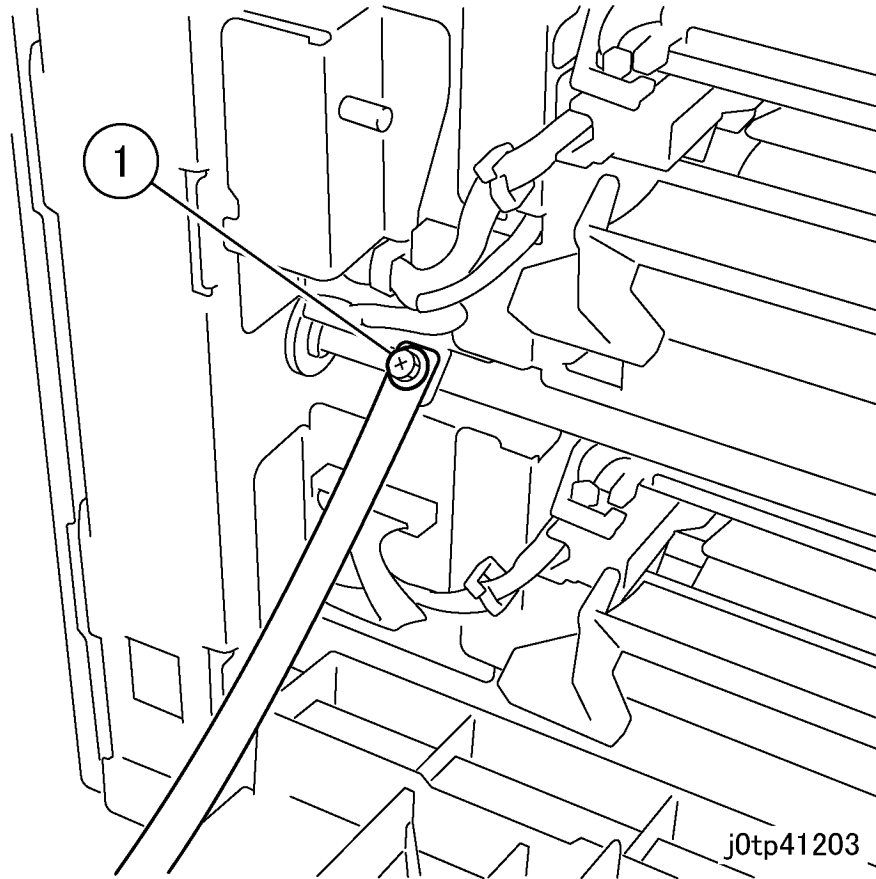

Figure 3 Removing the screws (j0tp41203)
5. Remove the screws. (Figure 3)